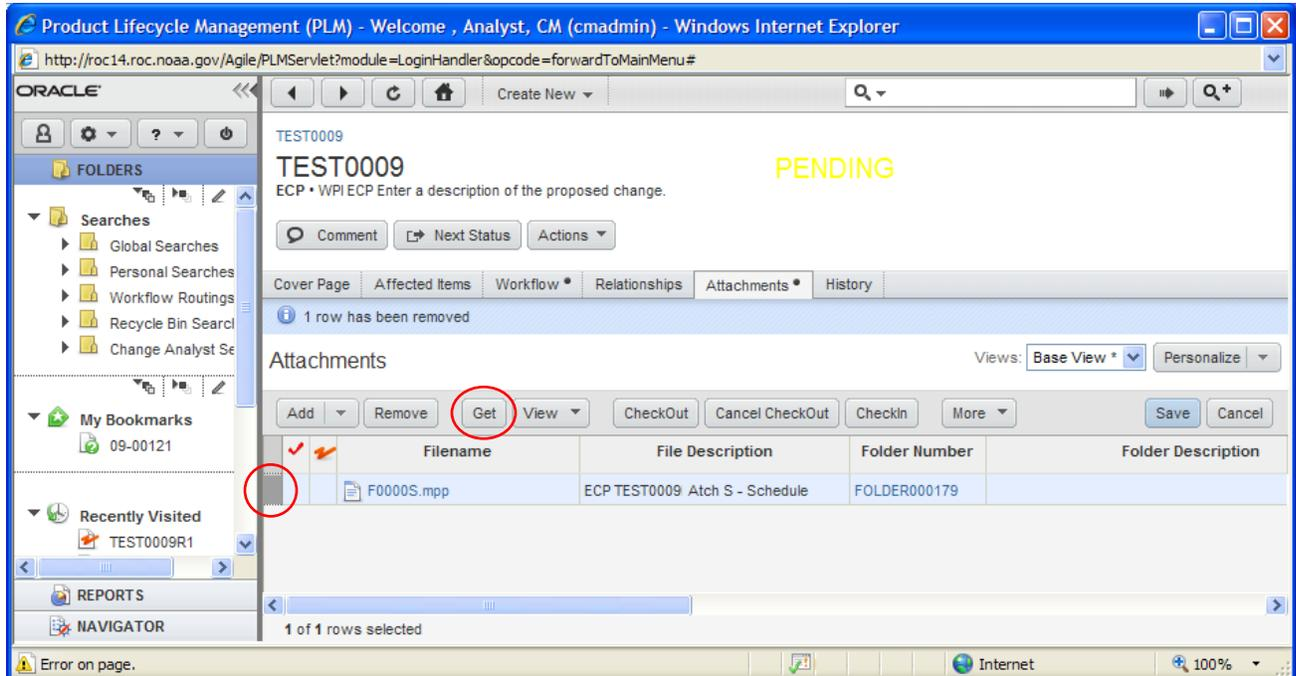

Figure 15: File row highlighted to perform a 'Get' and Get button location.
10. If a file was deleted from the local computer by mistake, the file can be replaced by performing a **Get**. To perform a **Get**, highlight the row containing the file attachment by clicking the gray box on the left-hand side of the CCR form (Figure 15). Click the **Get** button  on the **Attachments** tab toolbar.